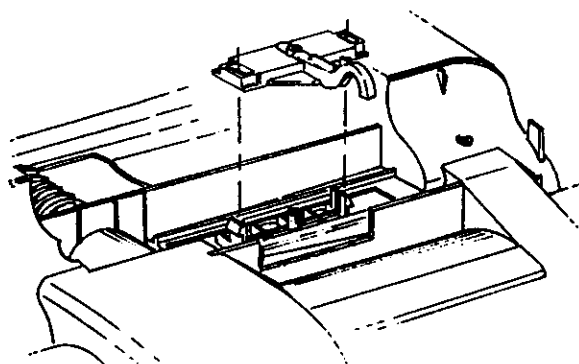

Fig. 7
1. Release two locking tabs and separate cam and lever (Fig. 7).